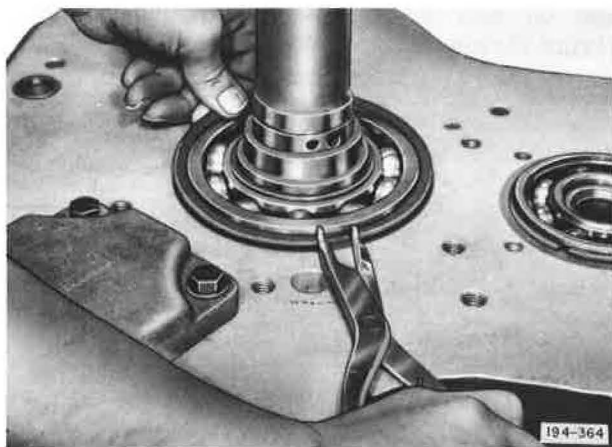

Figure 5-141. Removing Compound Main Driving Pinion Bearing Positioning Snap Ring
9. Remove compound main driving pinion bearing positioning snap ring. See Figure 5-141. Remove compound countershaft front bearing cover capscrews and covers.